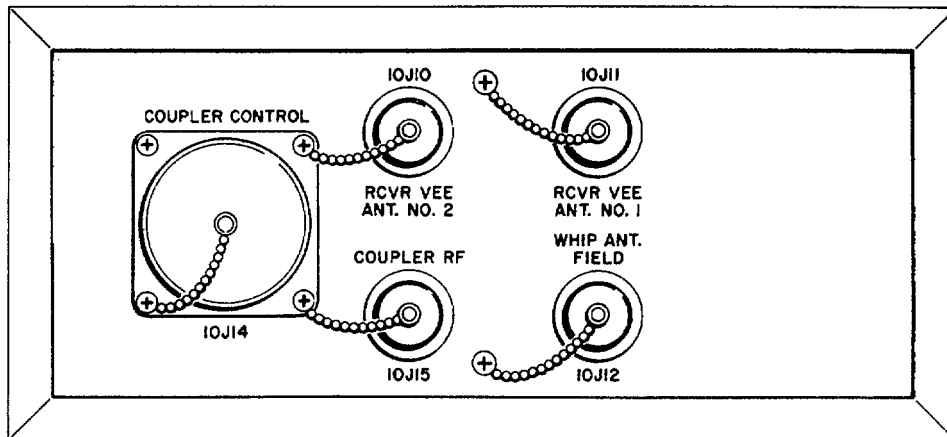

Figure 2-12. Antenna entry panel.
- (4) Unreel the remaining length of coaxial cable and route it to the end of the equipment shelter opposite the shelter door.
- (5) Connect the 1-kw coaxial cable to the connector marked RCVR VEE ANT. NO. 1 on the antenna entry panel (fig. 2-12).
- (6) Repeat steps (1) through (5) above for the other 1-kw sloping vee antenna. Connect the end of the 1-kw coaxial cable to the connector marked RCVR VEE ANT. NO. 2.
- (3) Route the 1-kw coaxial cable toward the equipment shelter and connect the other end of the 1-kw coaxial cable to the connector marked WHIP ANT. FIELD on the antenna entry panel (fig. 2-12).
- (1) Connect the length of coaxial cable W15 (fig. 1-15) between coaxial connector J2 on the bottom of the shelter-mounted antenna coupler and the connector marked COUPLER RF on the antenna entry panel (fig. 2-12).